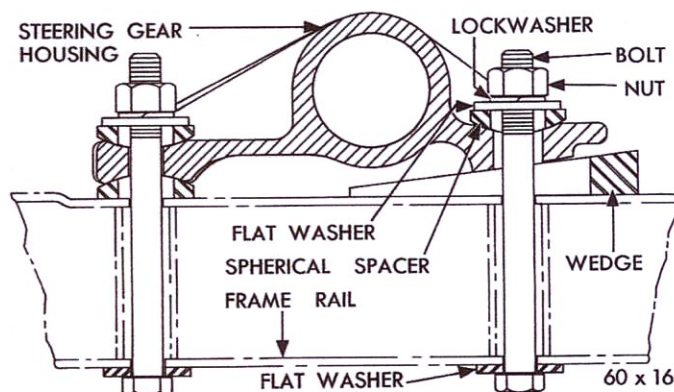

Fig. 17 - Steering Gear Mounting (Cross Section)
- (11) Install the steering wheel and steering wheel nut, tighten the nut to 40 foot-pounds torque.
- (12) Install the horn blowing switch, horn ring, the insulators and attaching screws. Connect the horn wire.
- (13) Compress and turn the horn button 1/4 turn clockwise to lock the horn button on the retainer.
- (14) Raise the vehicle.
- (15) Tighten the front upper and lower gear housing to the frame attaching bolts to 24 foot-pounds torque.
- (16) Install a wedge over the rear bolt (Fig. 17) between the housing and the frame so that the tapered surfaces match; wedge lightly into place and tighten the three attaching bolts to 50 foot-pounds torque.
- (17) Install the steering gear arm, washer and nut. Tighten nut to 120 foot-pounds torque.
- (18) Install the steering center link, nut and cotter pin.
- (19) Lower the vehicle.
(20) Carefully enter the left bank intake manifold and carburetor assembly into position.